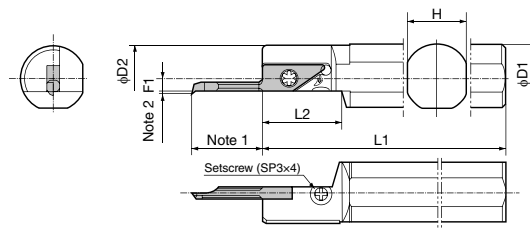

Fig.2 (S...SVN-SN)
* All system Tip-Bars Inserts are used with a SVNSR-N Toolholders. However, when setting the cutting edge at the face level of the toolholder as shown in Fig. 2, use the insert shown in (). In these cases, the F3 dimension of the toolholders corresponds to the L2 dimension of the insert.